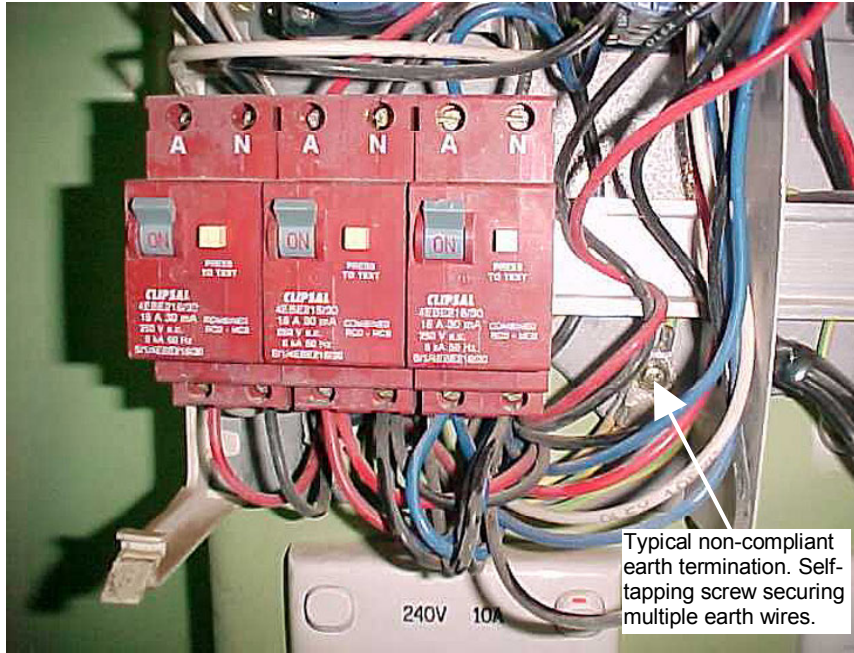

Figure 1 – Earth Terminal Screw
2. Various types of main earth terminal screws are fitted to these vehicles and, generally, they are self-tapping type of screws screwed into the rear metal cover plate of the switchboard (see Figure 1). This self-tapping screw is also used as the main earth terminal for a number earth wires entering the switchboard.